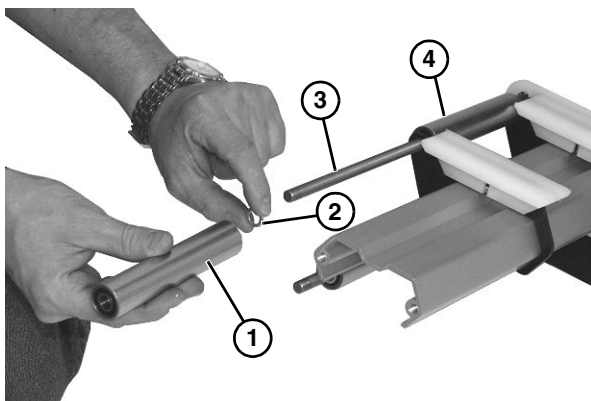

Figure 44
- Remove roller assembly (**Figure 44, item 1**) and washer (**Figure 44, item 2**) from axle shaft (**Figure 44, item 3**).
- Remove remaining roller assembly components (**Figure 44, item 4**) on opposite side.